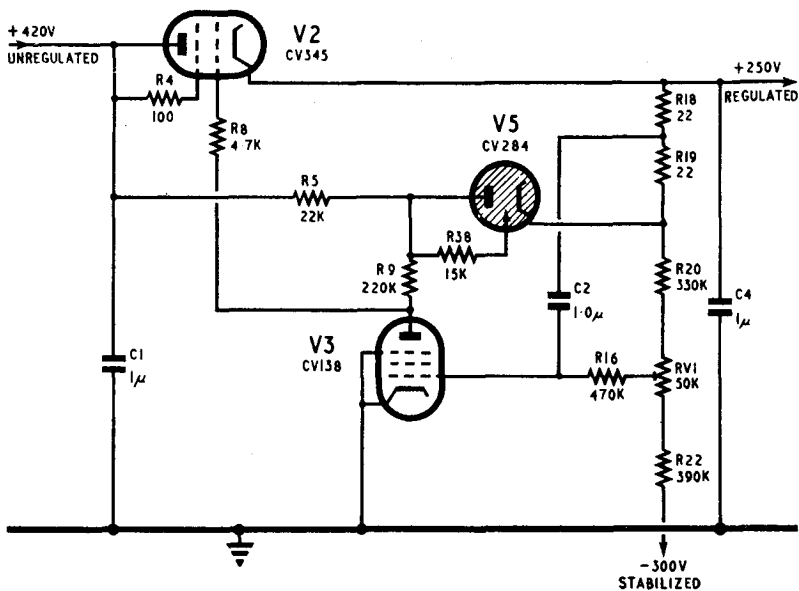

Fig. 5. Positive regulator
16. The circuit of the positive regulator, which includes the valves V2, V3 and V5, is shown in simplified form in fig. 5. The purpose of the device is to provide an accurately stabilized +250V HT supply from a +420V (nominal) power supply which is subject to fluctuations. The stabilized +250V supply produced is used both within the waveform generator unit and also in other units of the console Type 64 (except the deflection amplifiers).